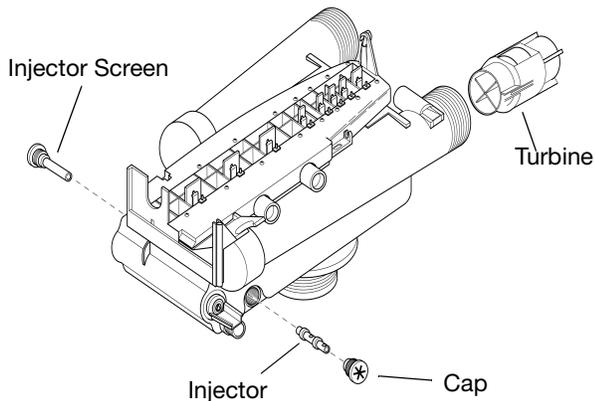

Figure 16
4. Using a needle-nose pliers, remove the turbine from the outlet housing. Grasp one of the four vanes of the outer gland and pull straight out to remove turbine assembly from the outlet of the valve (Figure 16).